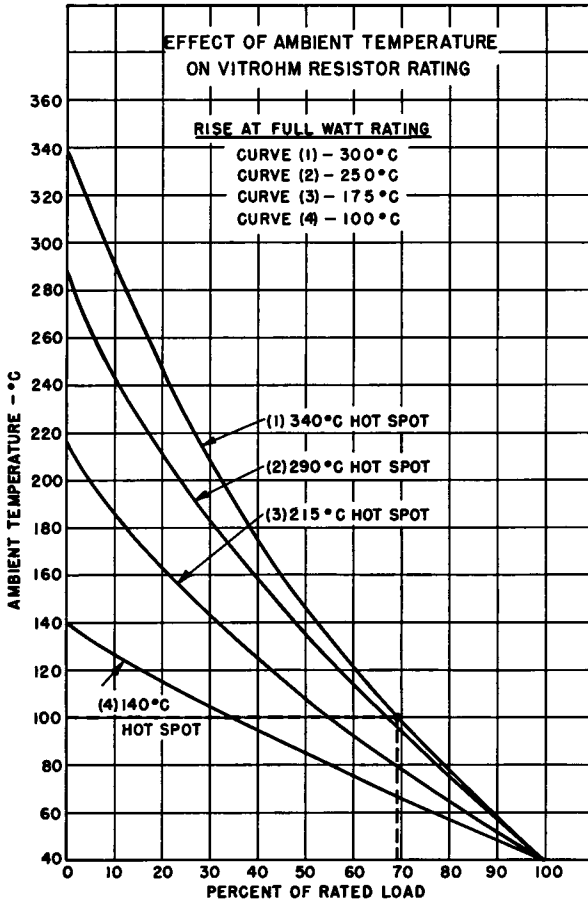

Figure 4-3. Effect of Ambient Temperature on Vitrohm Resistor Rating
2. *Derating Curves for Various Ambients*—The curves in Figure 4-3 show how the power handling capacity of a Vitrohm resistor is reduced as the ambient temperature rises. For example, a resistor is rated at 100 watts for a 300°C rise, at an ambient temperature of 40°C. If the resistor is operated at an ambient temperature of 100°C, it must be derated by 31 percent, and its actual rating at this ambient temperature (340°C hot spot) is $100 \times .69 = 69$ watts.